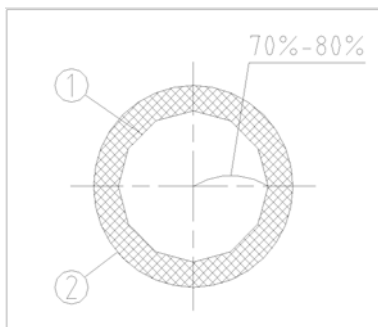

Fig. 19
If your sample has low contrast, it is advised to adjust the condenser aperture diaphragm to be 70%-80% of the N.A. of objective. The eyepiece can be removed to observe this through the eyetube. Adjust the aperture diaphragm adjustment ring ③ until it matches Fig. 19.